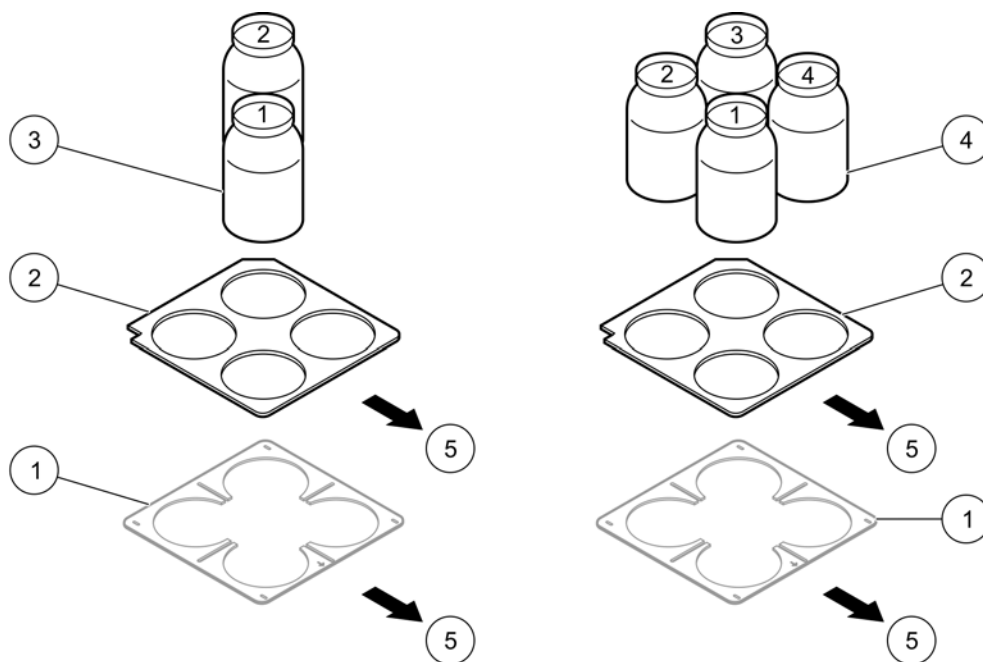

Figure 9 Two and four bottle installation
3. Place the bottles in the refrigerator as shown in Figure 9.